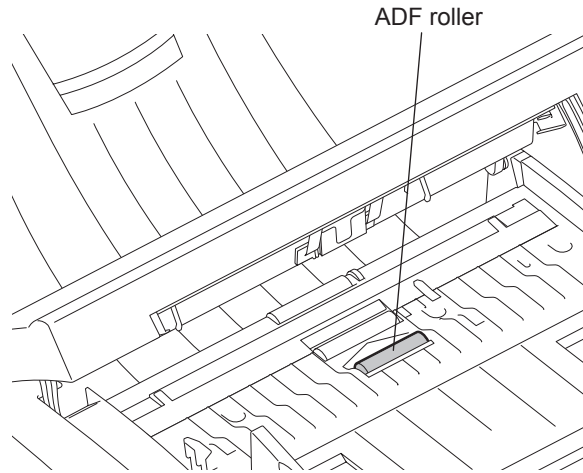

Fig. 10-7
- 6) ADF roller (P.10-7 "Fig. 10-7")